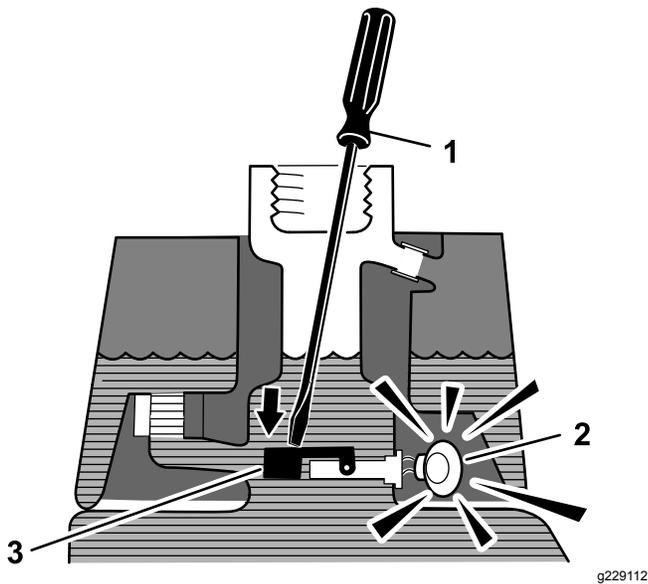

Figure 40
3. Insert a clean rod or screwdriver into the tank neck and gently push down on the float switch (Figure 40); the alarm should sound after the 1-second delay.